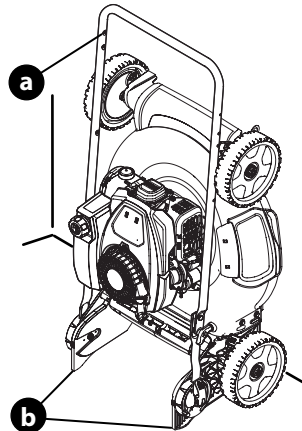

Figure 21
6. Lifting from the handle (a), tilt the mower up onto the rear wheels and back of the handle bracket (b) (Figure 21).